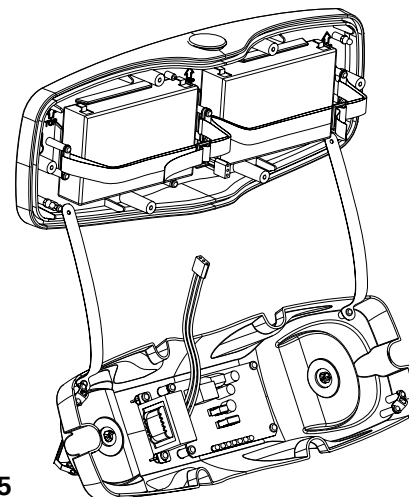
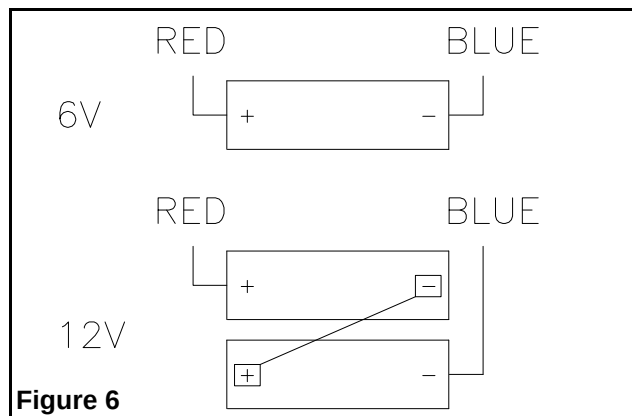

Figure 5
Figure 6
- a. Re-install batteries and electronic module as shown on figure 5. See figure 6 for batteries wiring diagram.
- c. Re-install the batteries. Battery heater is placed between the battery and the backplate. See figure 6 for battery wiring diagram. Re-install the electronic module as shown on figure 5.